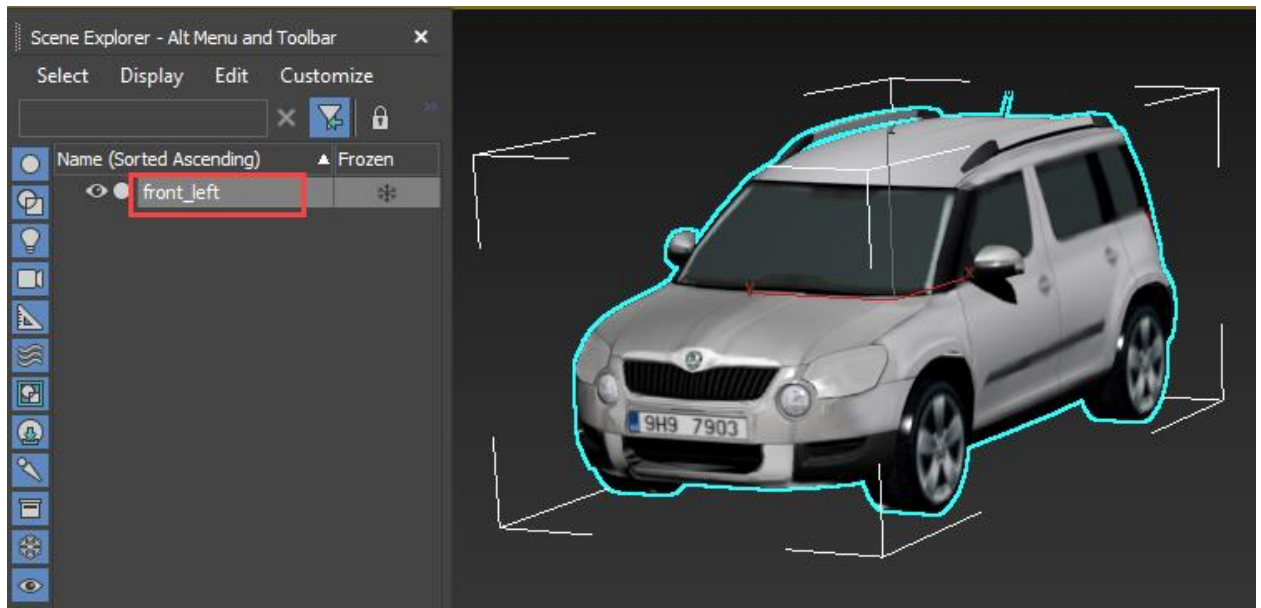

Figure 1.12. The whole car is highlighted
6. Finally attach **skoda_yeti** to **front_left** how it is described above in Item 5. After all you will be able to see the only **front_left** element in the **Scene Explorer** window and the whole car will be highlighted in the main window, see Figure 1.12.